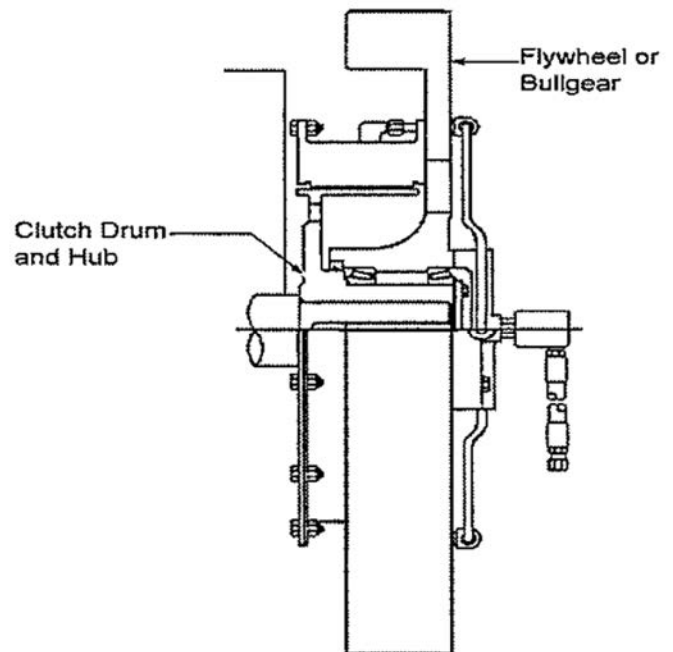

Figure 8
2.1.6 **Figure 8** illustrates a VC clutch mounting for punch press applications. The drum and drum hub are attached to the crankshaft or backshaft and the element is attached to a bearing-supported flywheel or bullgear. VC clutches on punch presses are typically used in combination with Airflex type CTE and DBA brakes.